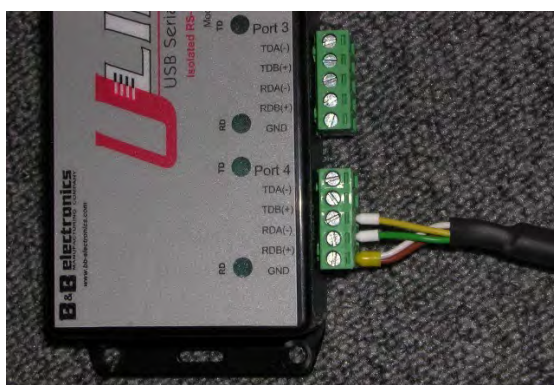

Figure 14 RS485 connection to transducer.
4. Data cable (LAN): equipped with a standard RJ45 plug, for connection to a remote computer, hub or switch, standard lengths 5 or 10 m. (see Figure 14)
5. Optional instead of item 4: Data line (DSL): equipped with a 2-pin cable for the connection of a DSL modem (see Figure 14)